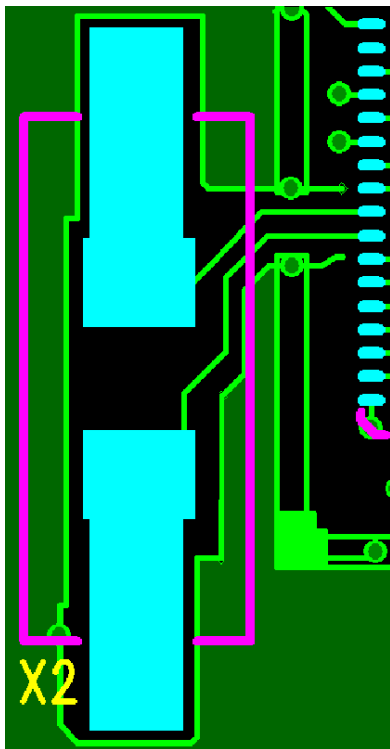

Figure 9. PCB Top Metal Layer Shielding of Crystal Signals
**OSC\_32K\_XOUT:** Output Pin for the 32kHz Oscillator. Connect to 32kHz quartz crystal. The OSC\_32K\_XOUT and OSC\_32K\_XIN traces must be well-shielded from other signals, both on the same PCB layer and lower PCB layers, as shown in Figure 9.
**OSC\_32K\_XIN:** Input for the 32kHz Oscillator. Connect to 32kHz quartz crystal. The OSC\_32K\_XOUT and OSC\_32K\_XIN traces must be well-shielded from other signals, both on the same PCB layer and lower PCB layers, as shown in Figure 9.
**OSC\_20M\_XOUT:** Output for the 20MHz Oscillator. Connect only to a supported 20MHz quartz crystal. The OSC\_20M\_XOUT and OSC\_20M\_XIN traces must be well-shielded from other signals, both on the same PCB layer and lower PCB layers, as shown in Figure 9. See the Eterna Integration Guide for supported crystals.
**OSC\_20M\_XIN:** Input for the 20MHz Oscillator. Connect only to a supported 20MHz quartz crystal. The OSC\_20M\_XOUT and OSC\_20M\_XIN traces must be well-shielded from other signals, both on the same PCB layer and lower PCB layers, as shown in Figure 9.